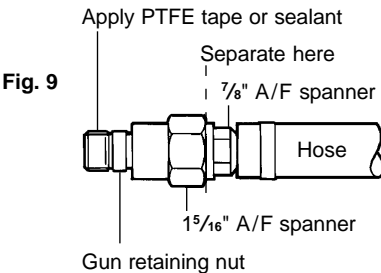

Fig. 9
**The heavy duty gun is fixed to the hose using the swivel coupling (see Figures 9, 10 and 11)**
**Fig. 9** Unscrew the retaining nut from the hose tail using 1 5/16" A/F and 7/8" A/F spanners. Apply PTFE or thread sealant to the male thread of the retaining nut.
When carrying out cleaning of the valve consideration should be given to total valve refurbishment by fitting a maintenance kit. Turn off and isolate the steam and water supplies, remove any residual pressure from the system by operating the hose gun and remove the gun from the hose. If the gun is to be cleaned (Reassemble the gun to the hose following Figures 9, 10 and 11, page 16). Undo the 3 union joints and remove the mixing valve from its fixings and move it to a maintenance area. Before reassembly ensure all union joint gasket faces are clean and ready to receive the new gaskets.